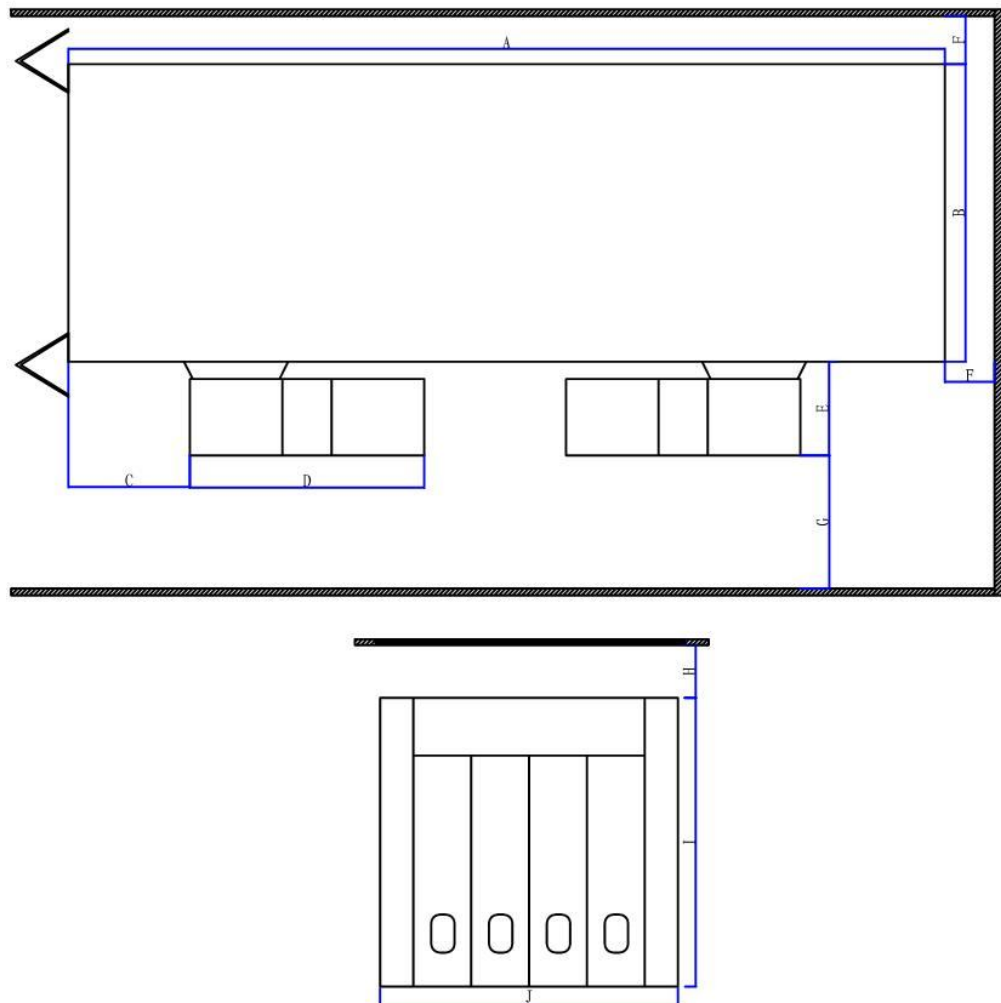

Fig. 2.1
4. For the correct function of the booth it is necessary that it has around it the minimum space as shown in Fig.2.1.